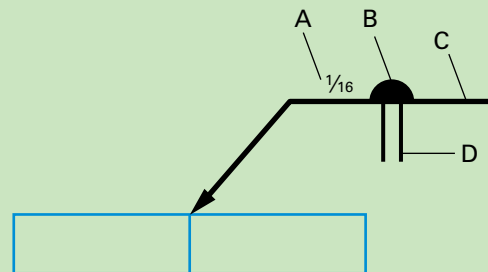

Figure 3
- The symbol in *Section Review Question Figure 3* that indicates that complete penetration from one side of a joint and root reinforcement are required is \_\_\_\_\_.